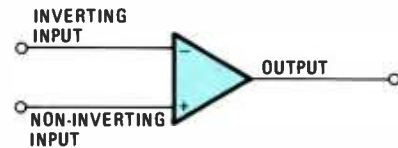

Fig. 1—This is the conventional schematic symbol used to indicate a two-input op-amp.
Fig. 1—Shown here is the RIAA recording and playback equalization curve that was adopted as the standard in 1953. Prior to that year, the curves were not standardized, and as a result, many variations were in use.
Figure 1 shows the symbol used to represent an op-amp. It has two inputs and an output. The inputs are labeled with a + and a -. The + input is called the *non-inverting input*. A DC signal applied there will produce a signal of the same polarity at the output. An AC input signal at the + input will be in phase with the output.
10. (a. in phase) Op-amps are rarely used in the basic configuration shown in Fig. 1. Instead, external components such as resistors and capacitors are connected to the op-amp to modify its characteristics, improve its performance, or customize its function. Most of the external connections provide negative feedback. Feedback is an electronic technique whereby some of the output of a circuit is fed back to the input. Negative feedback means that the input and outputs have opposite phases or polarities. It is negative feedback that gives an op-amp circuit its operational characteristics.